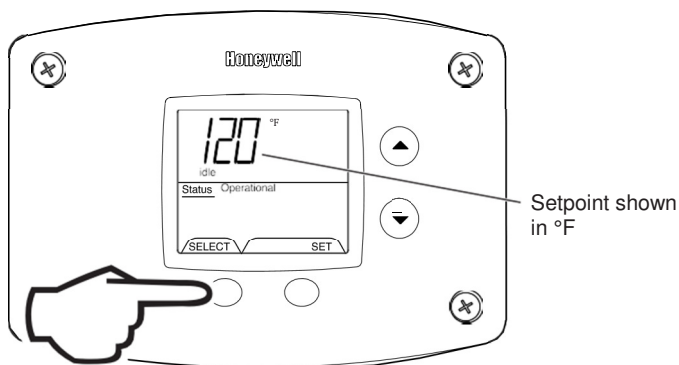

Fig. 25
5. Pressing 'SELECT' button will return display to setpoint in format selected (°F or °C) immediately (Fig. 25).